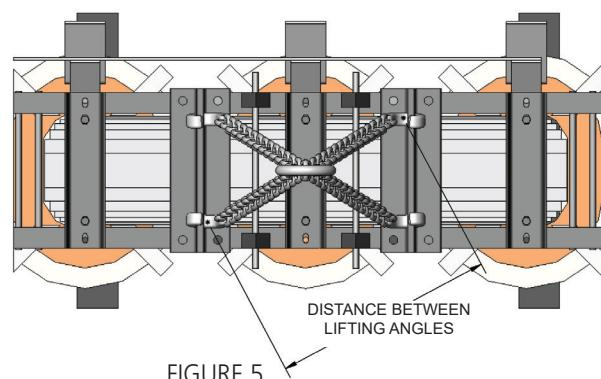
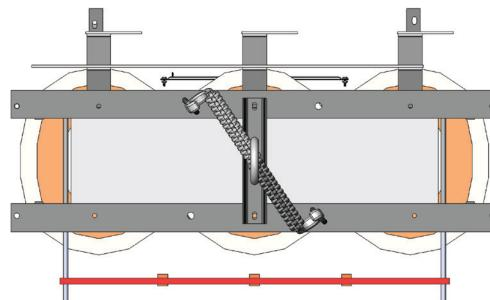

FIGURE 5
FIGURE 7
6. The direction of the pull (sling line) must be in-line with the plane of the eye bolts. When lifting a transformer with a 4-legged sling, align all four eyebolts to the center of the unit (see figure 5). Ensure slings have sufficient capacity for lift. When lifting a transformer with a 2-legged sling, ensure that the eye bolts are installed at opposite corners of the transformer and align to the center of the transformer core (see figure 7).